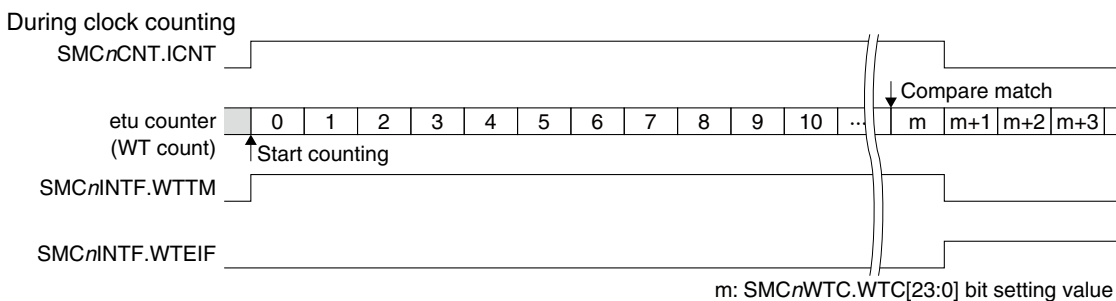

Figure 15.5.1 Guard Time and Wait Time Counter Operations
The minimum and maximum times (configurable in etu units) between the first characters of a frame and the next frame are defined as guard time (GT) and wait time (WT), respectively. SMCIF Ch.n has an embedded etu counter that counts the guard and wait times. The guard time and wait time can be set using the SMCnGTC.GTC[7:0] and SMCnWTC(0/1).WTC[23:0] bits, respectively. The wait time must be larger than the guard time. Figure 15.5.1 shows the counter operations.